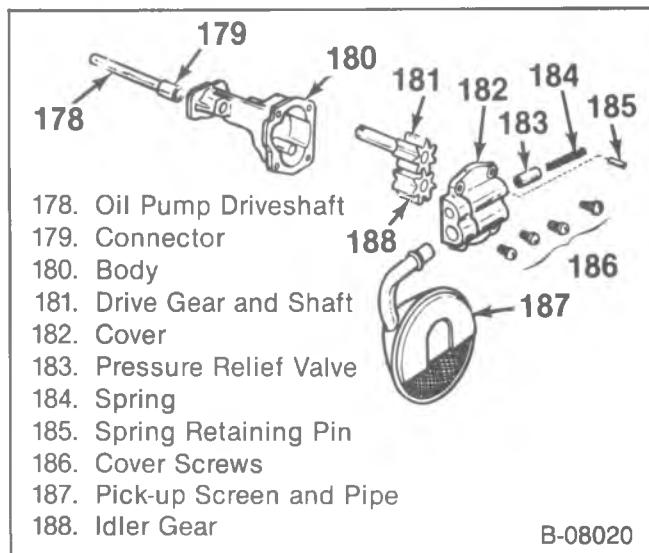

Figure 34—Oil Pump Components (5.0L and 5.7L Engines)
☒ Disassemble (Figures 34 and 35)
- The pickup pipe is a press fit in the pump body (182).
- Pump body (180) and cover (182) for cracks or other damage.
- Drive gear and shaft (181) for lack of fit in the pump body (180).
- Inside of the cover (182) for wear that would permit oil to leak past the ends of the gears. The pump gears, cover, and body are not serviced separately. If the parts are damaged or worn, replace the entire oil pump assembly.
- Pressure relief valve (183) for fit. The regulator valve should slide freely in its bore without sticking or binding.
**Assemble (Figures 34, 35, and 36)****Tool Required:**